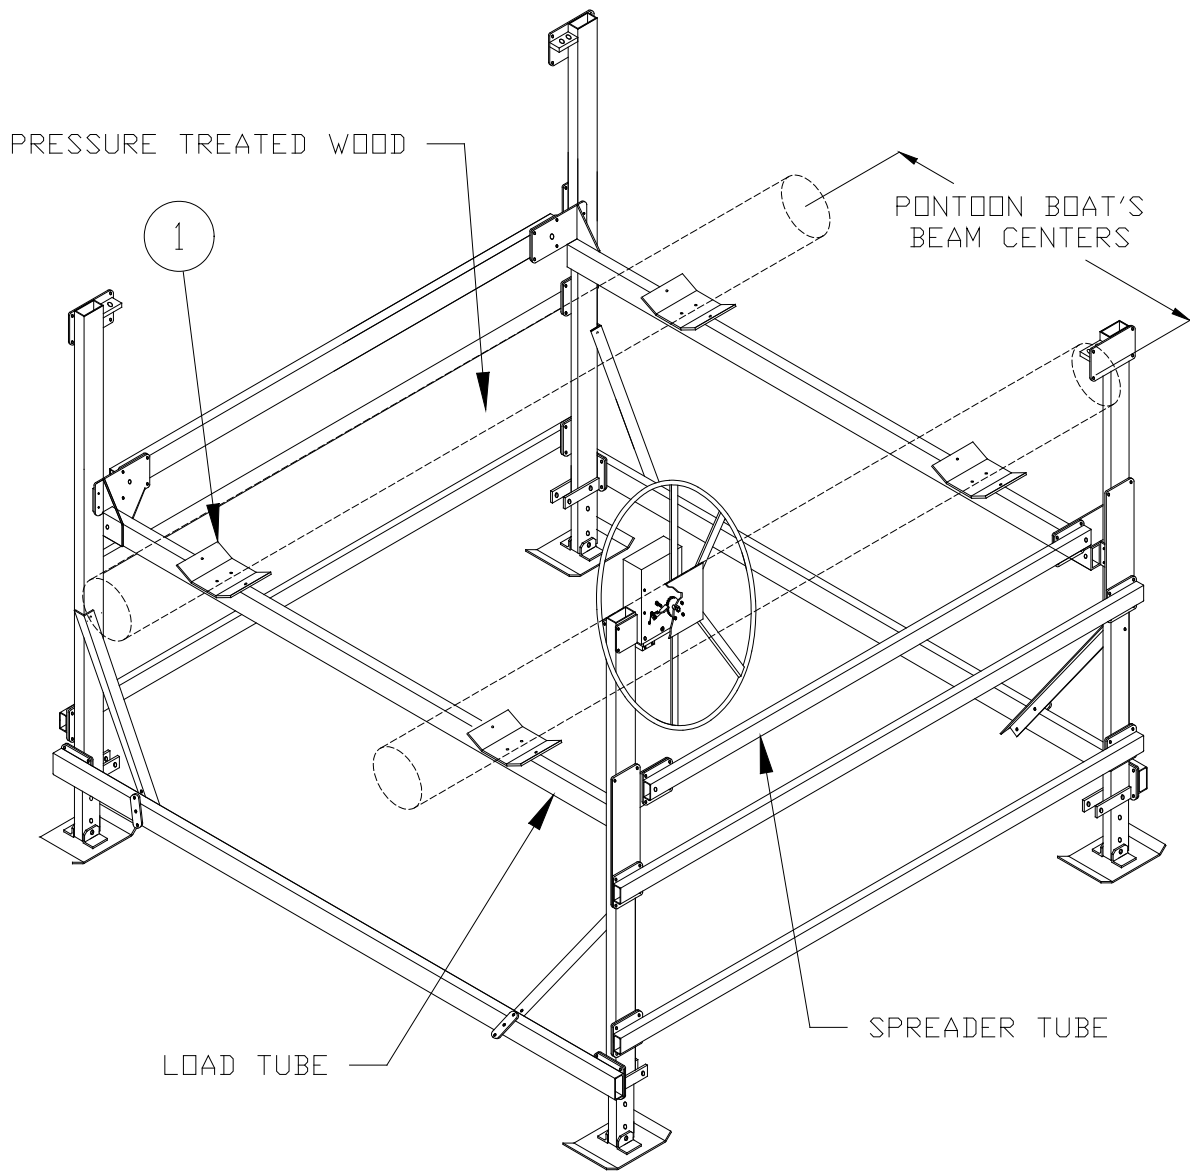

Figure 2-1.
1. **Refer to Figure 2-1.** Position the four-hole cradle mounting plates (1) face-up and centered on the load tubes. Measure the beam of your pontoon boat when locating the plates. Boat should remain centered on lift for best operation.